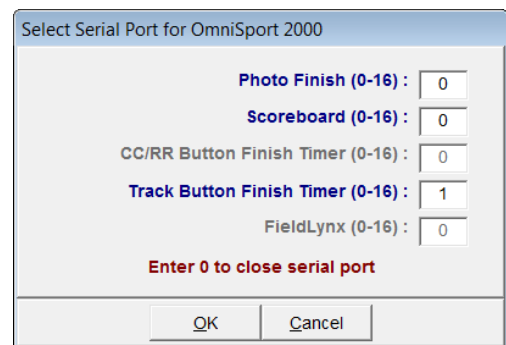

Figure 17: Serial Port for Track Button
6. For the *Track Button Finish Timer (0-16)* option (**Figure 17**), select the COM port number on the Hy-Tek computer connected to the OmniSport, and then click **OK**.